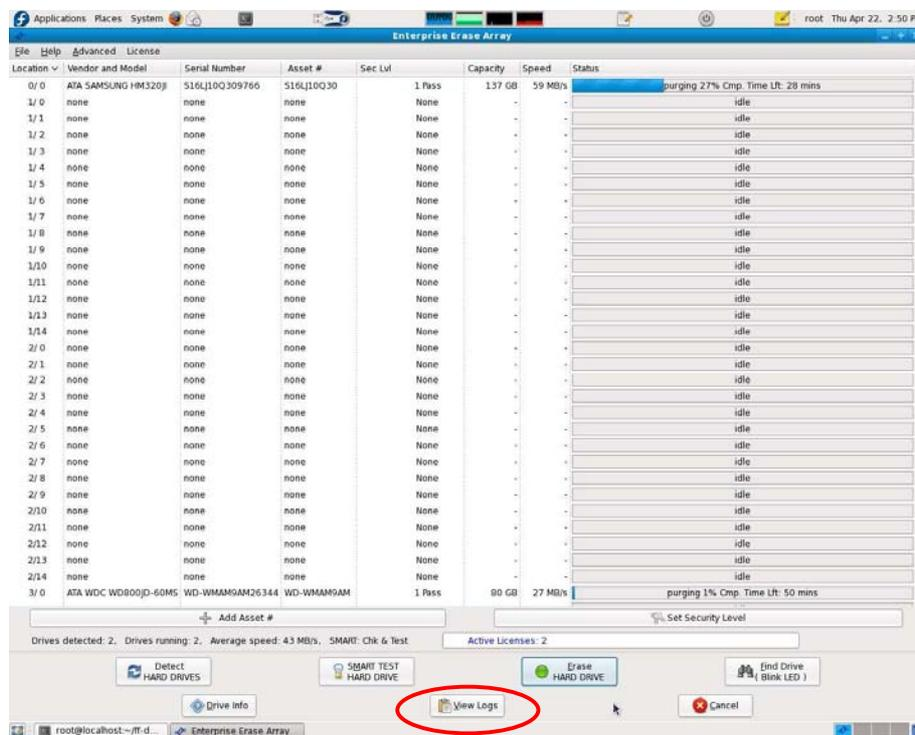

Figure 6.1 – Location of View Logs Button on Main User Interface Screen
6.1 To view the purge logs generated by the application click on the “View Logs” button at the bottom of the main user interface screen. The location of this button is shown in Figure 6.1 below.